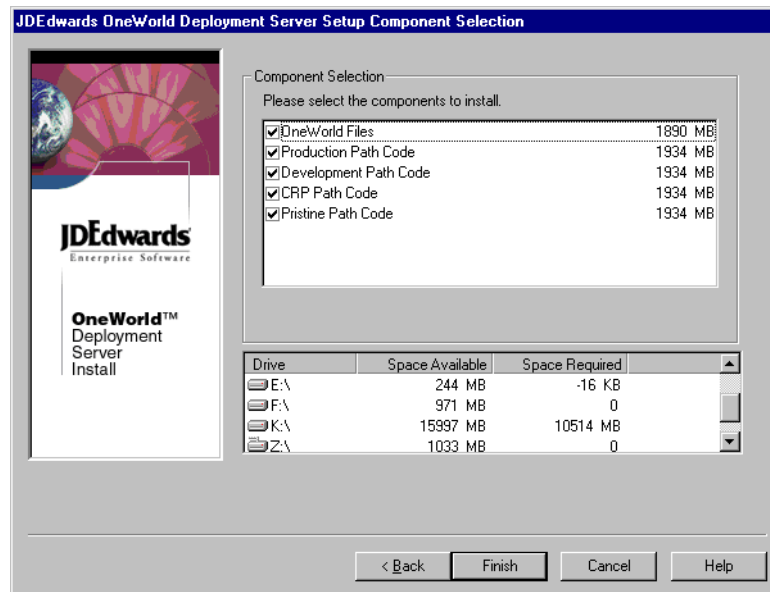

Figure 53. OneWorld Deployment Server Setup Component Selection
9. Select the path codes corresponding to the OneWorld environments that you plan to install (refer to Figure 53). If all path codes are automatically selected, deselect those that you do not want. Click **Finish**.